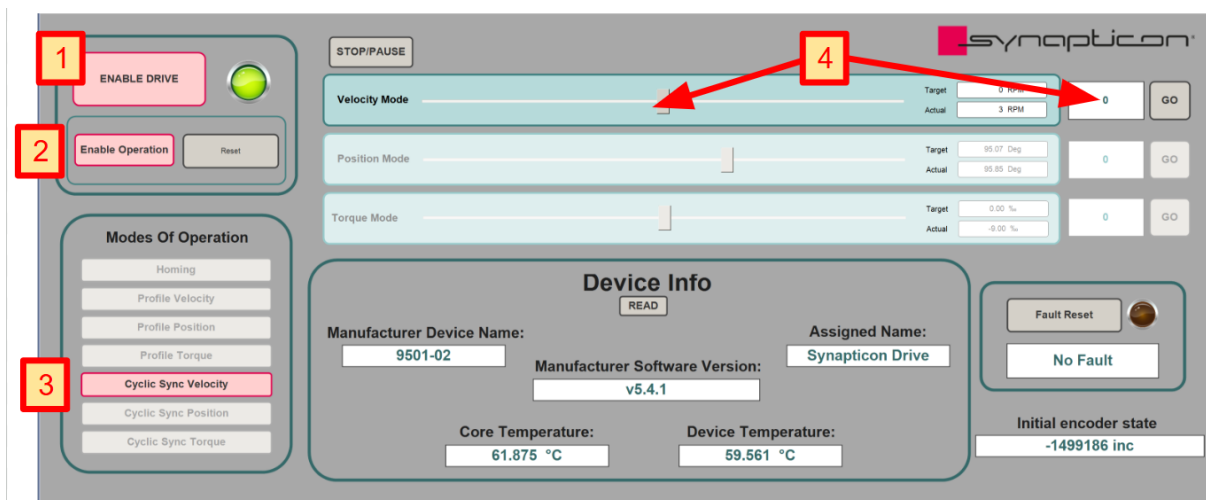

Figure 5.31 - Controlling the drive in cyclic sync velocity mode
5. Press the “GO” button. For clarification, refer to Figure 5.31.